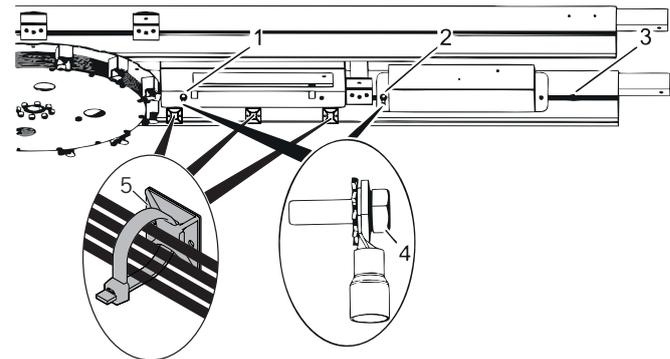

Fig. 126 Connecting the potential equalization
Check that all cables have been properly laid and connected in accordance with the wiring and installation plan. Fasten supplied cable clips as needed with double-sided adhesive tape underneath the control unit and re-route the cables (Fig. 126/5) or connect them. Lay the cables so that they will not be damaged by the ceiling plates.
Fasten the potential equalization (Fig. 126/4) of the power supply unit (Fig. 126/2) and the controller (Fig. 126/1) on existing mounting screws in the ceiling structure.
3. Fasten the (hammer head) screw in the ceiling structure next to the power supply unit (Fig. 126/3).
13. Route the building's potential equalization line to the (hammer head) screw (Fig. 126/3) in the ceiling structure and connect it.